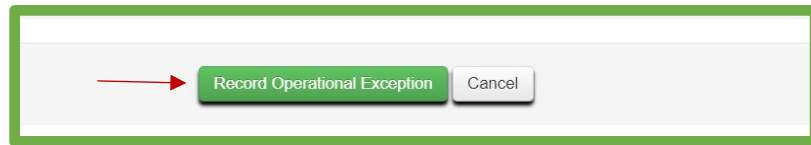

Figure 9: Record Operation Exception
- 6. To finalize the report, select 'Record Operational Exception' at the bottom of the action window as shown in **Figure 9**.